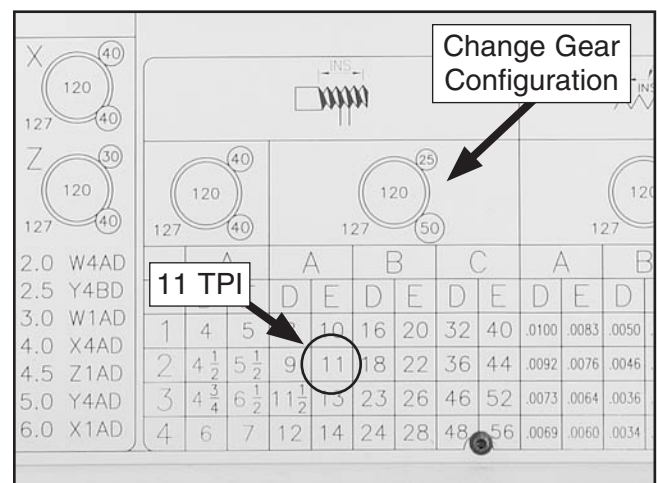

Figure 83. Setup configuration displayed on the inch threading chart for cutting threads of 11 TPI.
- Locate "11" in the inch threading chart on the face of the headstock (see **Figure 83**).